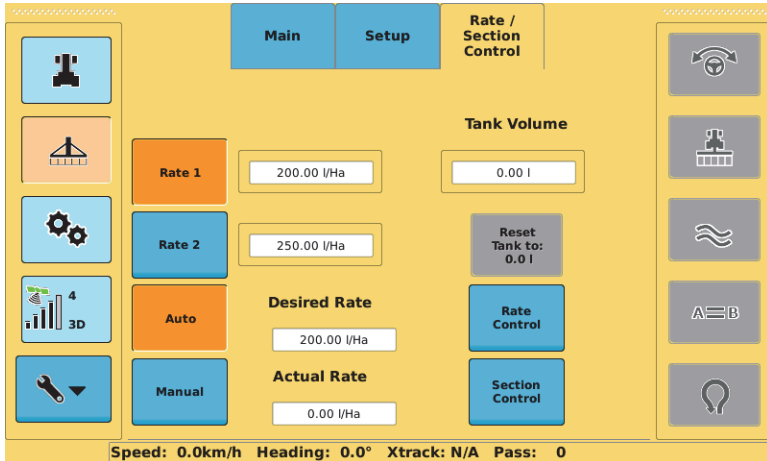

Figure 7-4: Product Details screen (rate/section control)
1. Press the **Implement** screen button then press the **Rate / Section Control** tab at the top of the screen. The Rate/Section Control Product Details screen appears (see Figure 7-4 on page 140).
Use the Rate/Section Control Product Details screen (Figure 7-4) to set rate (flow) control parameters.
1. Press the **Implement** screen button then the **Rate / Section Control** tab. The Rate/Section Control Product Details screen appears (see Figure 7-4).